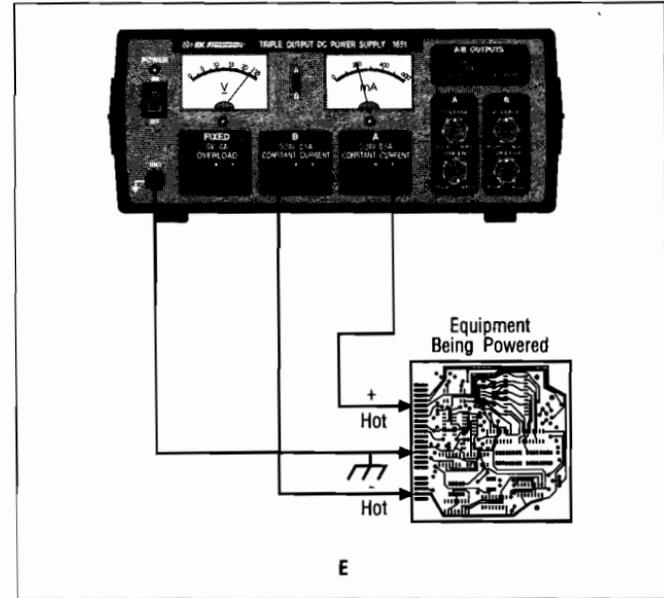

Figure 8. Series tracking (0-to-48 V) operation grounding possibilities (sheet 3 of 3).
8. Fig. 8 illustrates the grounding possibilities when the unit is used as a 0-to-48 volt supply.